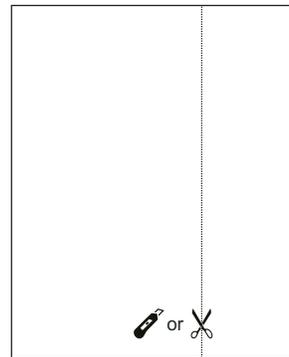

**Fig.10**
D. Cut Window sash seal foam and insert it in the space between the upper and lower sashes (Fig.10).